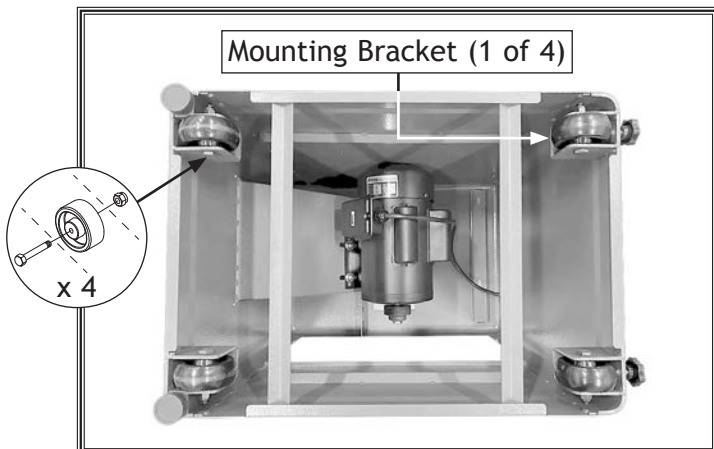

Figure 2. Wheels installed on stand mounting brackets.
3. Install (4) wheels in stand mounting brackets using (4) $\frac{3}{8}$ "-16 x $1\frac{3}{16}$ ", $2\frac{1}{2}$ "L wheel axles and (4) $\frac{3}{8}$ "-16 lock nuts, as shown in **Figure 2**.